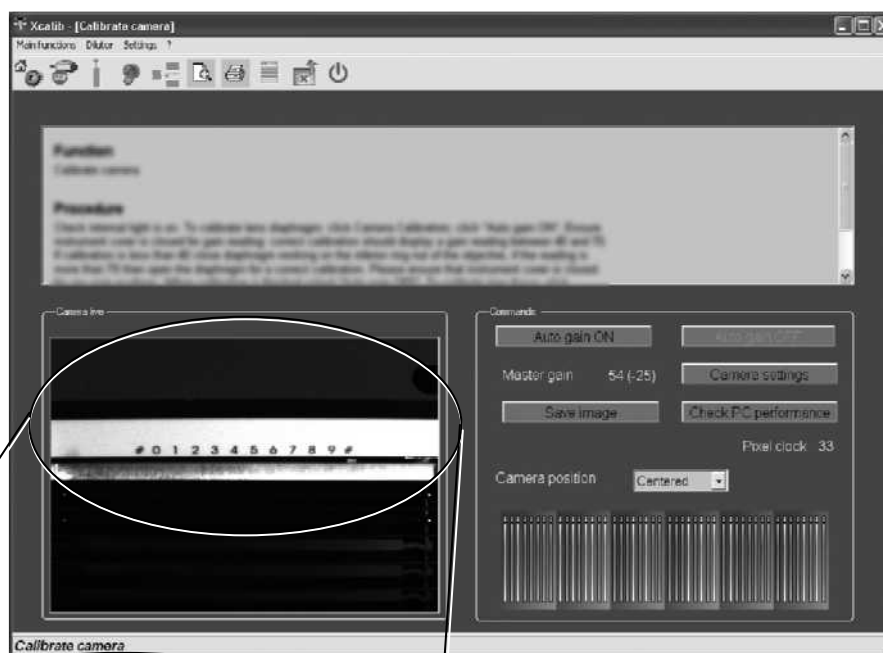

Fig. 1
- 2) Select "**Auto Gain ON**". The camera will then move to frame the Calibration Strip (as shown in Fig 1) and will automatically set a white balance.
- 2) Select "Auto Gain ON". The camera will then move to frame the Calibration Strip (as shown in Fig 1) and will automatically set a white balance.
- 3) Check that camera focus is correct with reference to numbers on Calibrating strip (Fig. 1)
- 2) Unblock focus ring (Fig1) by loosening blocking screws (fig2)